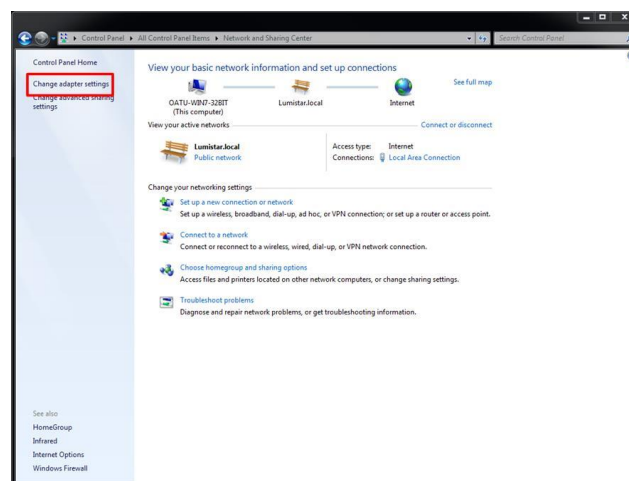

Figure 3-6 Windows Network and Sharing Page
Step 4: From Network and Sharing Center, select the “Change adapter settings” option from the left-hand menu. See Figure 3-6.
Step 4: From Network and Sharing Center, select the "Change adapter settings" option from the left-hand menu. See Figure 3-6.